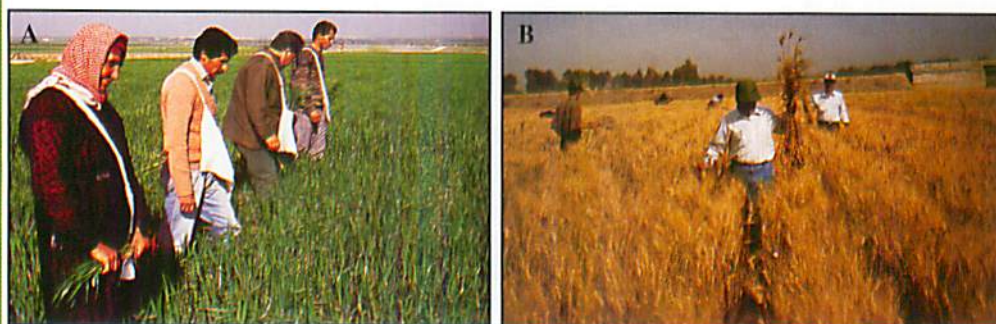

Fig. 3. Roguing at different growth stages of the crop: flowering (A), and maturity (B)
- Adequate roguing of seed fields (Fig. 3)